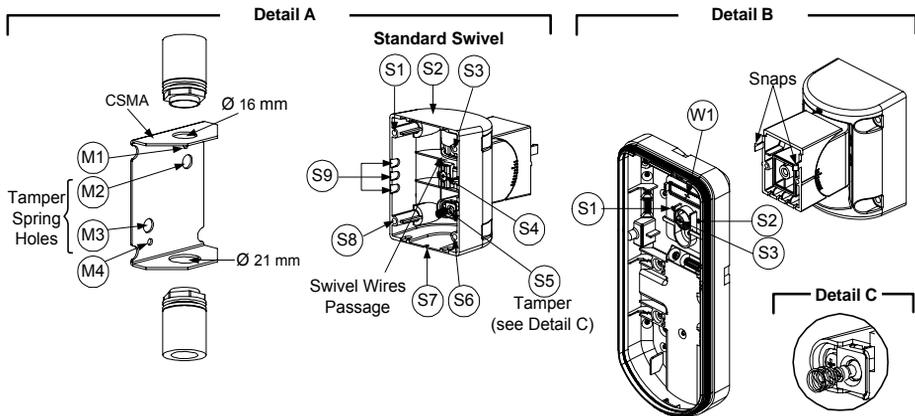

Figure 6
3. Open knockouts on external base (Figure 6, Detail B)
4. On the swivel accessory remove the required swivel cable wiring knockout S2, S7 or S9 (Figure 6, Detail A).
5. Remove back tamper from the internal base (see "Changing Back Tamper Position" paragraph) and connect it to S5 (Figure 6, Detail A) on the Standard Swivel.
- a. Insert external cable wiring through knockouts S2, S7 or S9 and extract them (including the tamper wires) through the Swivel Wires Passage (Figure 6, Detail B).
Swivel Conduit Mounting (using Conduit Metal Swivel Adaptor - CSMA, Figure 6, Detail A)
- d. Insert external cables and tamper wires from the conduit through the swivel wires passage of the swivel (Figure 6, Detail A).
The Tamper spring S5 (Figure 6) should make contact with the wall through the tamper spring holes M2 or M3 on the CSMA. Make sure to hear the tamper "Click" when connecting to the wall.
7. Insert tamper wires and external cable wiring from Standard Swivel through knockout W1 on the external base (Figure 6, Detail B).